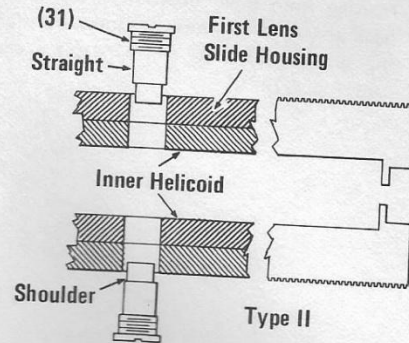

FIG. 4-22
2. Type II Helicoid. Fig. 4-22.
In Type II the edges of the first lens cam slot, and the sides of slide screw (31) are straight. Fig. 4-22.